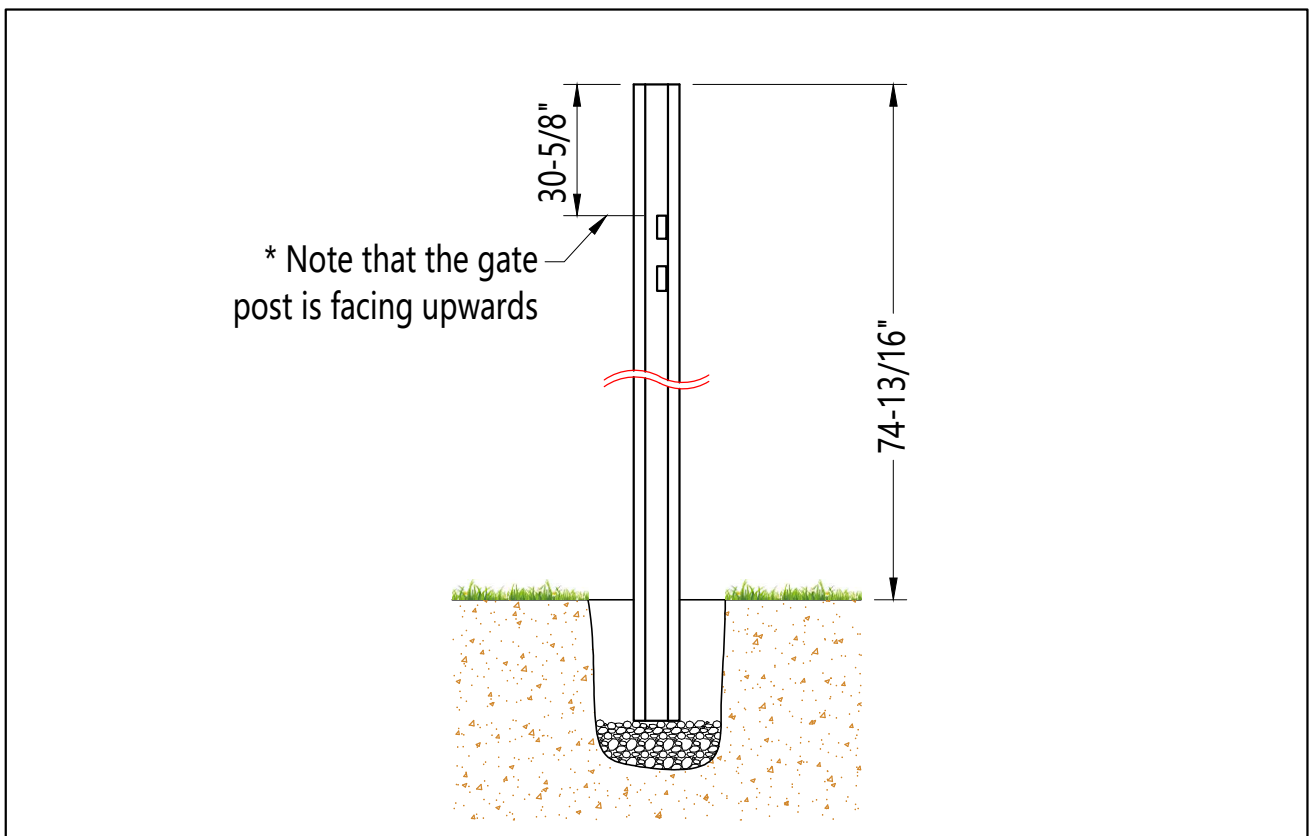

Figure 5.1
- 5 Place the gate posts in the middle of the gravel and ensure they are plumb. The distance from the post top and the ground should be 74-13/16", as shown in Figure 5.1.